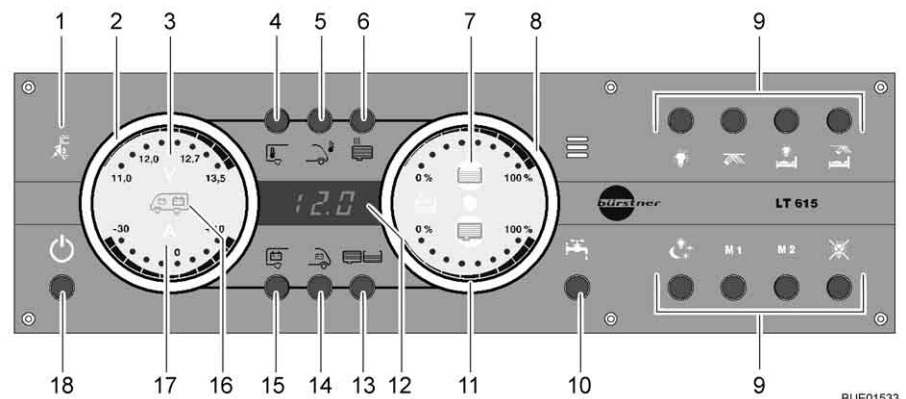

Fig. 154 Panel LT 615
The 230 V indicator lamp (Fig. 154,1) illuminates whenever line voltage is available at the transformer/rectifier input. The batteries are charged.
The 12 V main switch (Fig. 154,18) switches the panel and the 12 V power supply of the living area on and off.
- Briefly press the 12 V power supply button (Fig. 154,18). The 12 V living area power supply is switched on. The "12 V" indicator lights up.
- ▷ If, after switching on, the "11.0" LED of the volt indicator and the "V" volt symbol (Fig. 154,3) in the batteries gauge (Fig. 154,2) flash, the voltage of the living area battery is too low. Charge battery.
- ▷ If, after switching on, the "12 V" indicator and the "V" volt symbol (Fig. 154,3) flash three times, battery separation is activated. Deactivate battery separation.
- ▷ When the panel is switched off and the "V" symbol (Fig. 154,3) flashes red, the battery is then discharged. To protect the battery from total discharge, the panel can then not be switched on. Charge the battery as soon as possible.
- Briefly press the 12 V power supply button (Fig. 154,18). The 12 V living area power supply is switched off. The "12 V power supply" indicator goes out.
- Press button for living area battery (Fig. 154,15) and hold it down for approx. 10 seconds. The "V" volt symbol (Fig. 154,3) and the "12 V" indicator flash three times. The living area battery is disconnected from the 12 V power supply.
- Press the 12 V power supply button (Fig. 154,18) and hold it down for approx. 5 seconds. The "V" volt symbol (Fig. 154,3) and the "12 V" indicator flash three times. The living area battery is connected to the 12 V power supply. The indicator lights up after approx. 5 seconds.
- Press button for living area battery (Fig. 154,15). The "V" volt symbol (Fig. 154,3) lights up. The "A" amp symbol (Fig. 154,17) lights up as either white or red depending on whether it is charging or discharging. The battery voltage and electricity of the living area battery are displayed via the LEDs in the gauge. The residual capacity of the living area battery is shown as a percentage on the display.
- Press button for starter battery (Fig. 154,14). The "V" volt symbol (Fig. 154,3) lights up. The battery voltage of the starter battery is displayed using the LEDs in the gauge.
- Press tanks button (Fig. 154,13). The water tank (Fig. 154,7) and waste water tank (Fig. 154,11) symbols light up. The fill levels of the water tank (upper scale) and of the waste water tank (lower scale) are indicated using the LEDs in the gauge.
Tank alarm The water tank symbol (Fig. 154,7) or waste water tank symbol (Fig. 154,11) flashes when the water tank is empty or the waste water tank is full.
The internal and external temperatures can be indicated in °C using the digital display (Fig. 154,12).
Displays: ■ Press the button for the internal temperature (Fig. 154,4). The internal temperature is displayed.
■ Press external temperature button (Fig. 154,5). The external temperature is displayed.